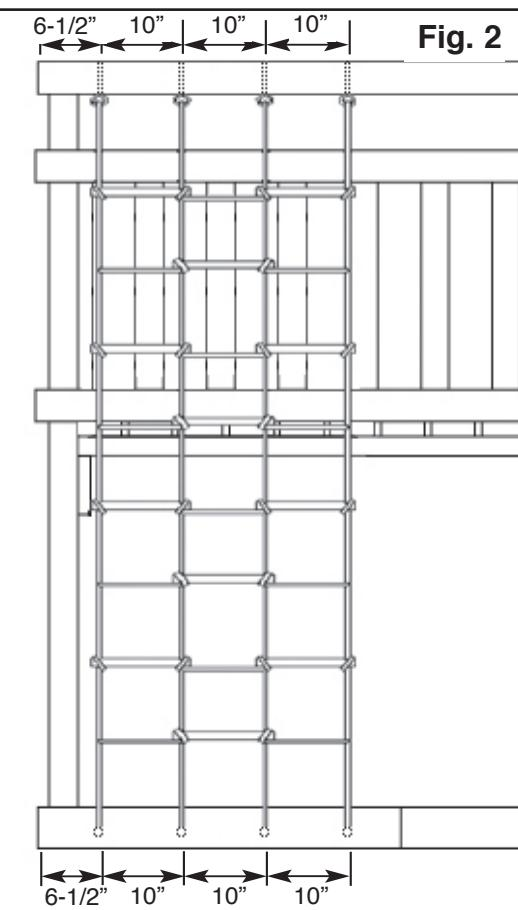
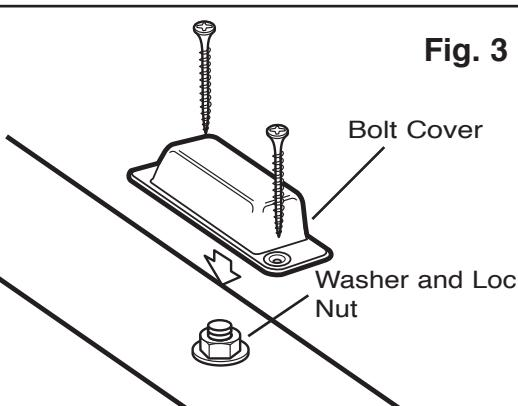

Fig. 2
Fig. 3
5. Drill four 5/16" holes in the top board and four 3/8" holes in the bottom board as indicated in Fig. 2. **NOTE:** Drill through the bottom of the 2" x 4" board to the top. Insert the eye bolts of the Cargo Net through the holes of the top board and secure all of them using a washer and loc nut (see Fig. 3).
6. Place bolt covers over the bolts as indicated in Fig. 3. Secure bolt covers using 2" screws.